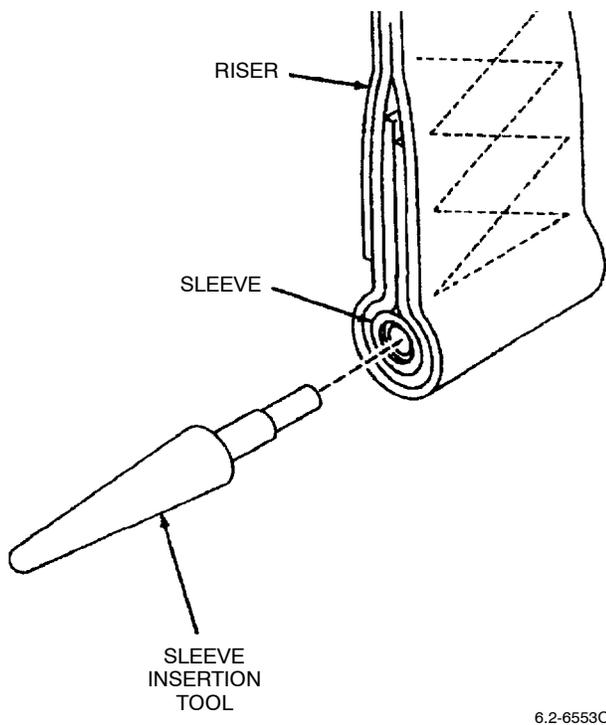

Figure 22. Remove Sleeve Insertion Tool
c. Remove sleeve insertion tool from sleeve leaving sleeve in riser (Figure 22).